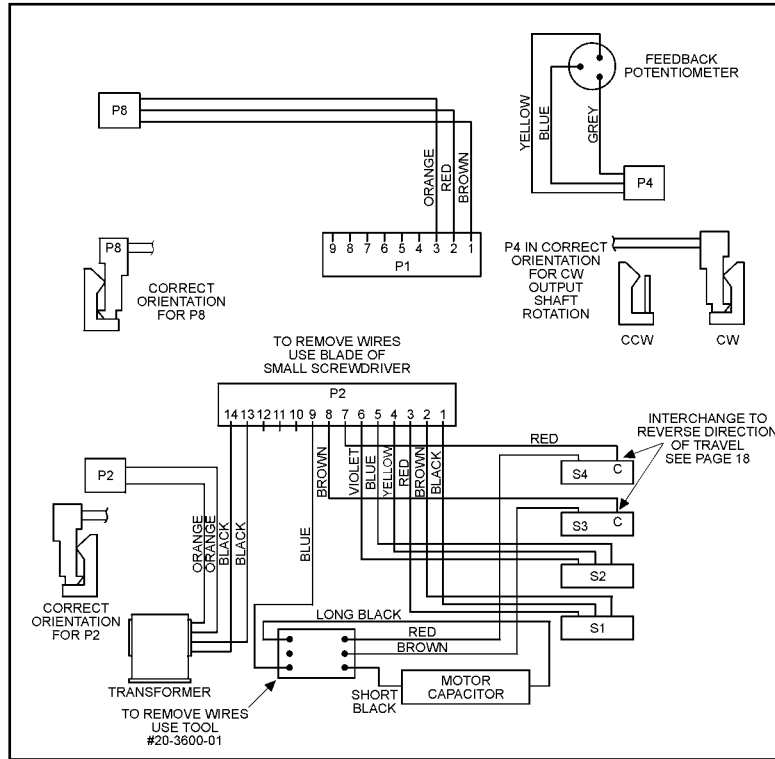

Figure 15
6. Disconnect plugs P1, P2, P3, P4, P8, and P9 from the control board. See Figures 15 and 16, Option 2 and 3 Wiring Diagram, for correct location to reconnect plugs.
11. Cut the cable tie holding the switch and transformer wires to the control module standoff. Remove the switch to be replaced and disconnect the wires. Before replacing the switch, reconnect the wires. Refer to Figures 15 and 16, Option 2 and 3 Wiring Diagram, for proper wire connections. IMPORTANT: Switch and transformer wires must be properly secured to the control module standoff to prevent interference with the control module cover.
12. Cut the cable tie holding the switch and transformer wires to the control module standoff. Remove the two black transformer wires from plug P2. To remove, insert the blade of a small screwdriver into the slot on the plug opposite the wire entrance. This will release a tang holding the wire termination into the plug. See Figures 15 and 16, Option 2 and 3 Wiring Diagram, for correct location to replace wires. IMPORTANT: Switch and transformer wires must be properly secured to the control module standoff to prevent interference with the control module cover.
14. Cut the cable tie holding the motor capacitor to its mounts. Use wire removal tool, BECK part number 20-3600-01, to remove the two capacitor wires from the six position plug. Refer to Figures 15 and 16, Option 2 and 3 Wiring Diagram, for proper wire locations. Replace capacitor on mounts and secure with two cable ties.